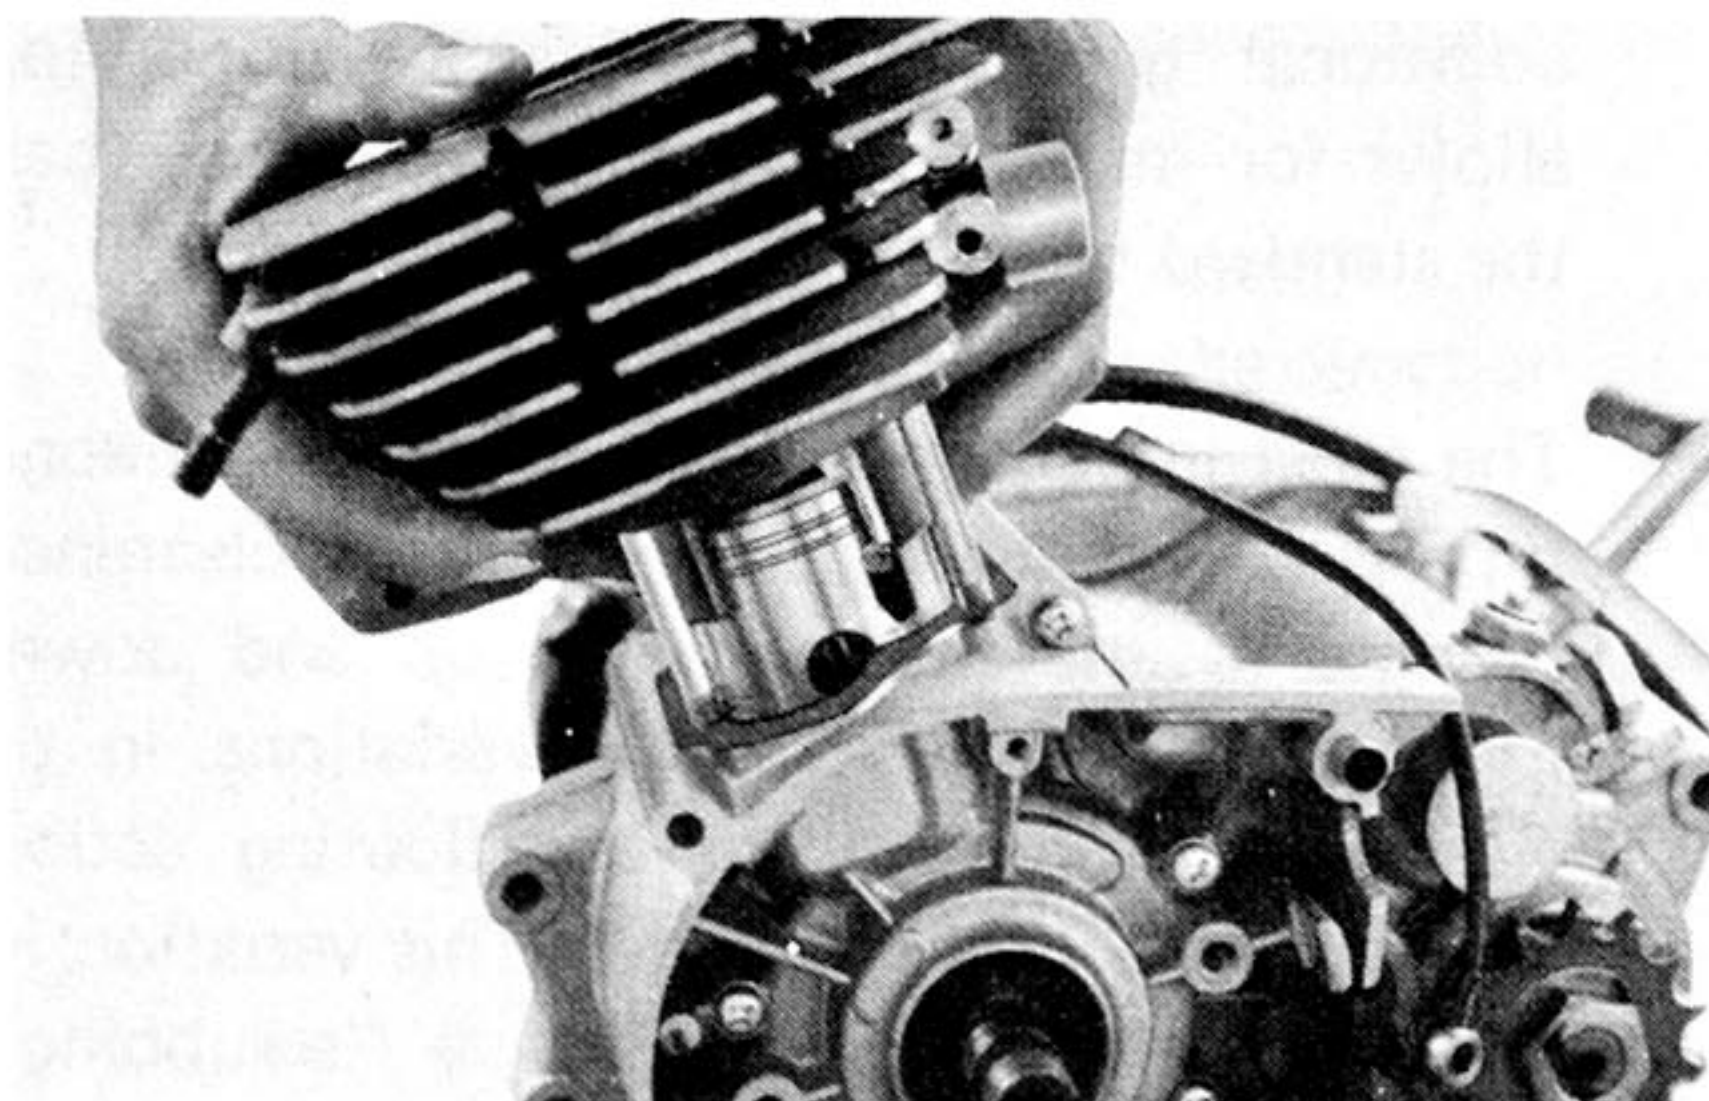

Fig. 4-3-9
- b. When installing the cylinder over the piston, squeeze the piston rings into their grooves (their end gaps should close on the locating pin) so they will not catch and break on the bottom of the cylinder. (Fig. 4-3-9)